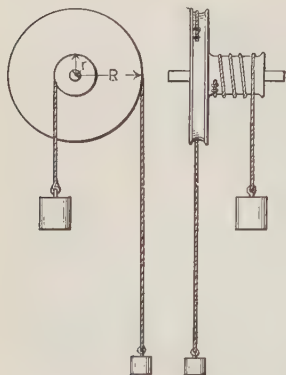

FIGURE 556. — Small forces acting through the large distance,  $R$ , balance large forces acting through the small distance,  $r$ .
**383. Wheel and Axle.** — This simple machine is a modified form of the lever. The effort is applied to the circumference of a wheel which turns the axle so as to raise a weight (Figure 556). The effort arm is  $R$  and the resistance arm is  $r$ . When the effort arm is 4 times as long as the resistance arm, a 1-pound force will raise a